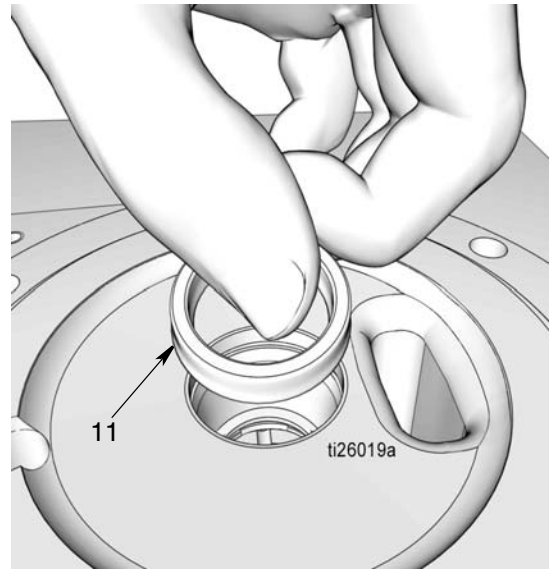

FIG. 35
- d. Install seal (11). Be sure the lips of the seal are facing down as shown in FIG. 35.